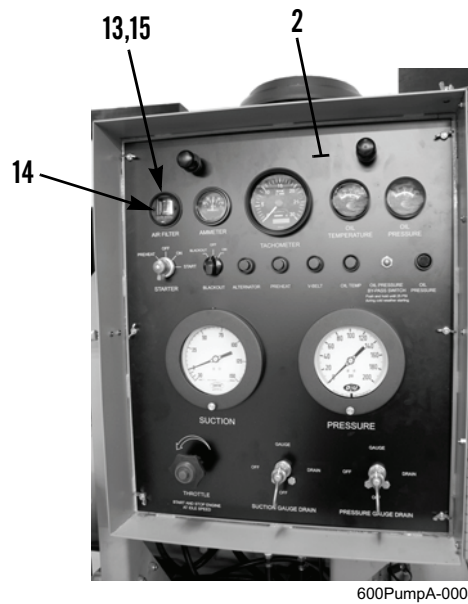

Figure 7. Air Filter Restriction Indicator.
2. Remove two screws (Figure 7, Item 14) and cover (Figure 7, Item 15) and air filter restriction indicator (Figure 7, Item 13).
1. Install air filter restriction indicator (Figure 7, Item 13) on panel (Figure 7, Item 2).
3. Install cover (Figure 7, Item 15) and two screws (Figure 7, Item 14) on air filter restriction indicator (Figure 7, Item 13).